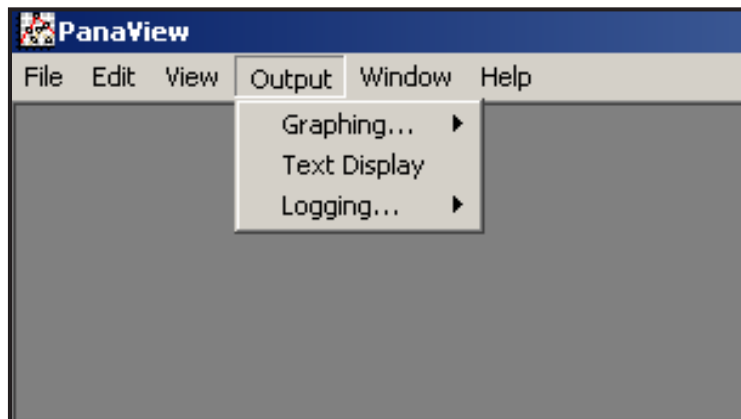

Figure 2: The Output Menu
To access PanaView's data handling options, pull down the *Output* menu, as shown in Figure 2.
2. Pull down the *Output* menu and click on the *Text Display* option (see Figure 2 on page 46).
2. Pull down the *Output* menu and click on the *Graphing - New* option (see Figure 2 on page 46).